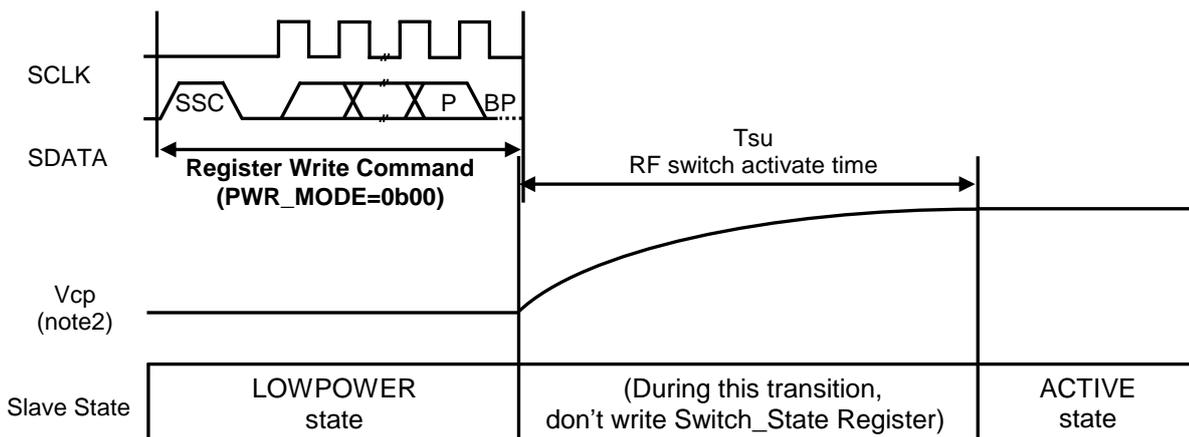

**Figure 4. Slave State Diagram**
- Figure 4, 5 and Table4 describes the RFASWH526BTF03 has four operating states.
The RFASWH526BTF03 has four operating states, which are ACTIVE, SHUTDOWN, STARTUP and LOW POWER. The transitions between these four states are set writing the PWR\_MODE register or VIO as shown in Figure 4. The internal circuit operations in each operating state are shown in Table 4.